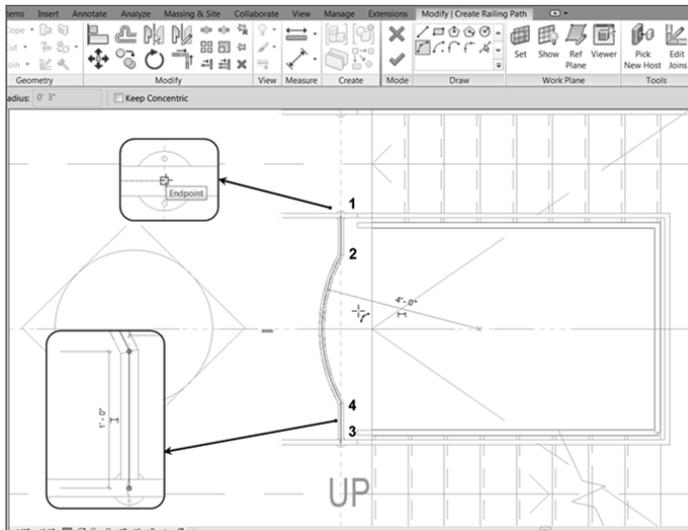

FIGURE 10.27: Creating the middle railing
3. Draw a line down 1'-0" (300 mm) from the intersection of the upper-south ADA railing extension and the reference planes, as shown in Figure 10.27.
4. Draw a line up 1'-0" (300 mm) from the top ADA railing extension on the south leg of the stairs (see Figure 10.27).
5. On the Draw panel, click the Start-End-Radius Arc button (see Figure 10.27).
6. Draw a 4'-0" (1200 mm) arc from the endpoints of the top and bottom lines (see Figure 10.27).